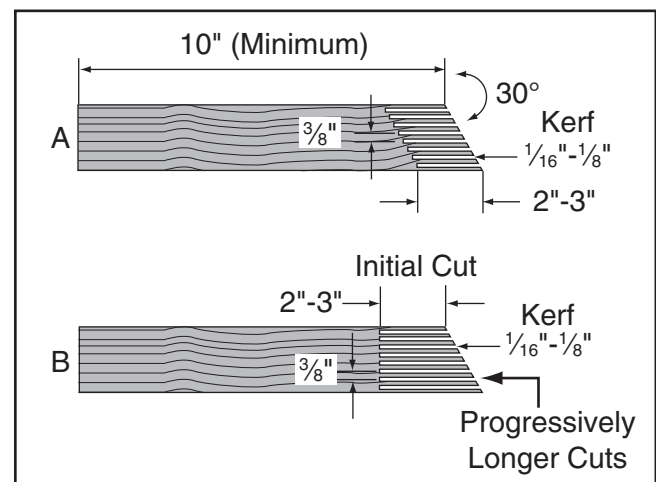

Figure 79. Patterns for featherboards (top view shown).
3. Make a series of end cuts with the grain $\frac{3}{8}$ "– $\frac{1}{4}$ " apart and 2"–3" long, as shown in **Figure 79 (A)**. Alternatively, start cuts at 2"–3" deep, then make them progressively deeper, as shown in **Figure 79 (B)**.